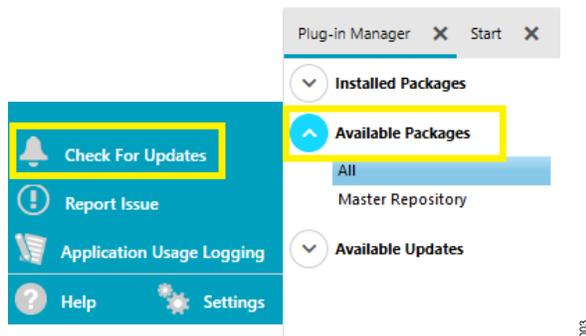

Figure 3. Plug-in Manager Option in the Sidebar
2. Run the **ACE** software and select **Plug-in Manager** from the ACE sidebar to install the board plug-in that supports the product evaluation board and select **Available Packages**, as shown in Figure 3. You can use the search field to help filter the list of boards to find the relevant one. An ACE quickstart guide is available here at ACE Quickstart - Using ACE and Installing Plug-ins.